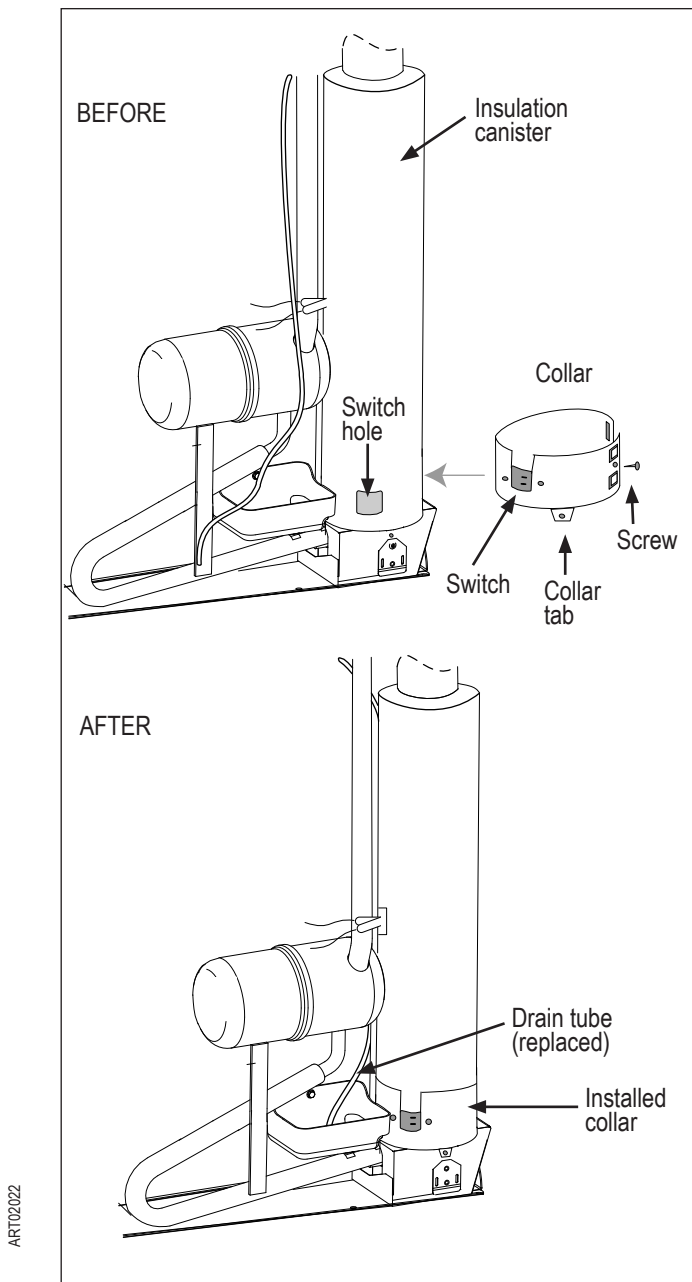

Figure 5. Installing the Metal Collar and Switch
1. Slide the metal collar between the drip cup and canister so that the switch lines up with its hole in the canister and the seam in the sleeve is on the right side of the canister. Refer to Figure 5.